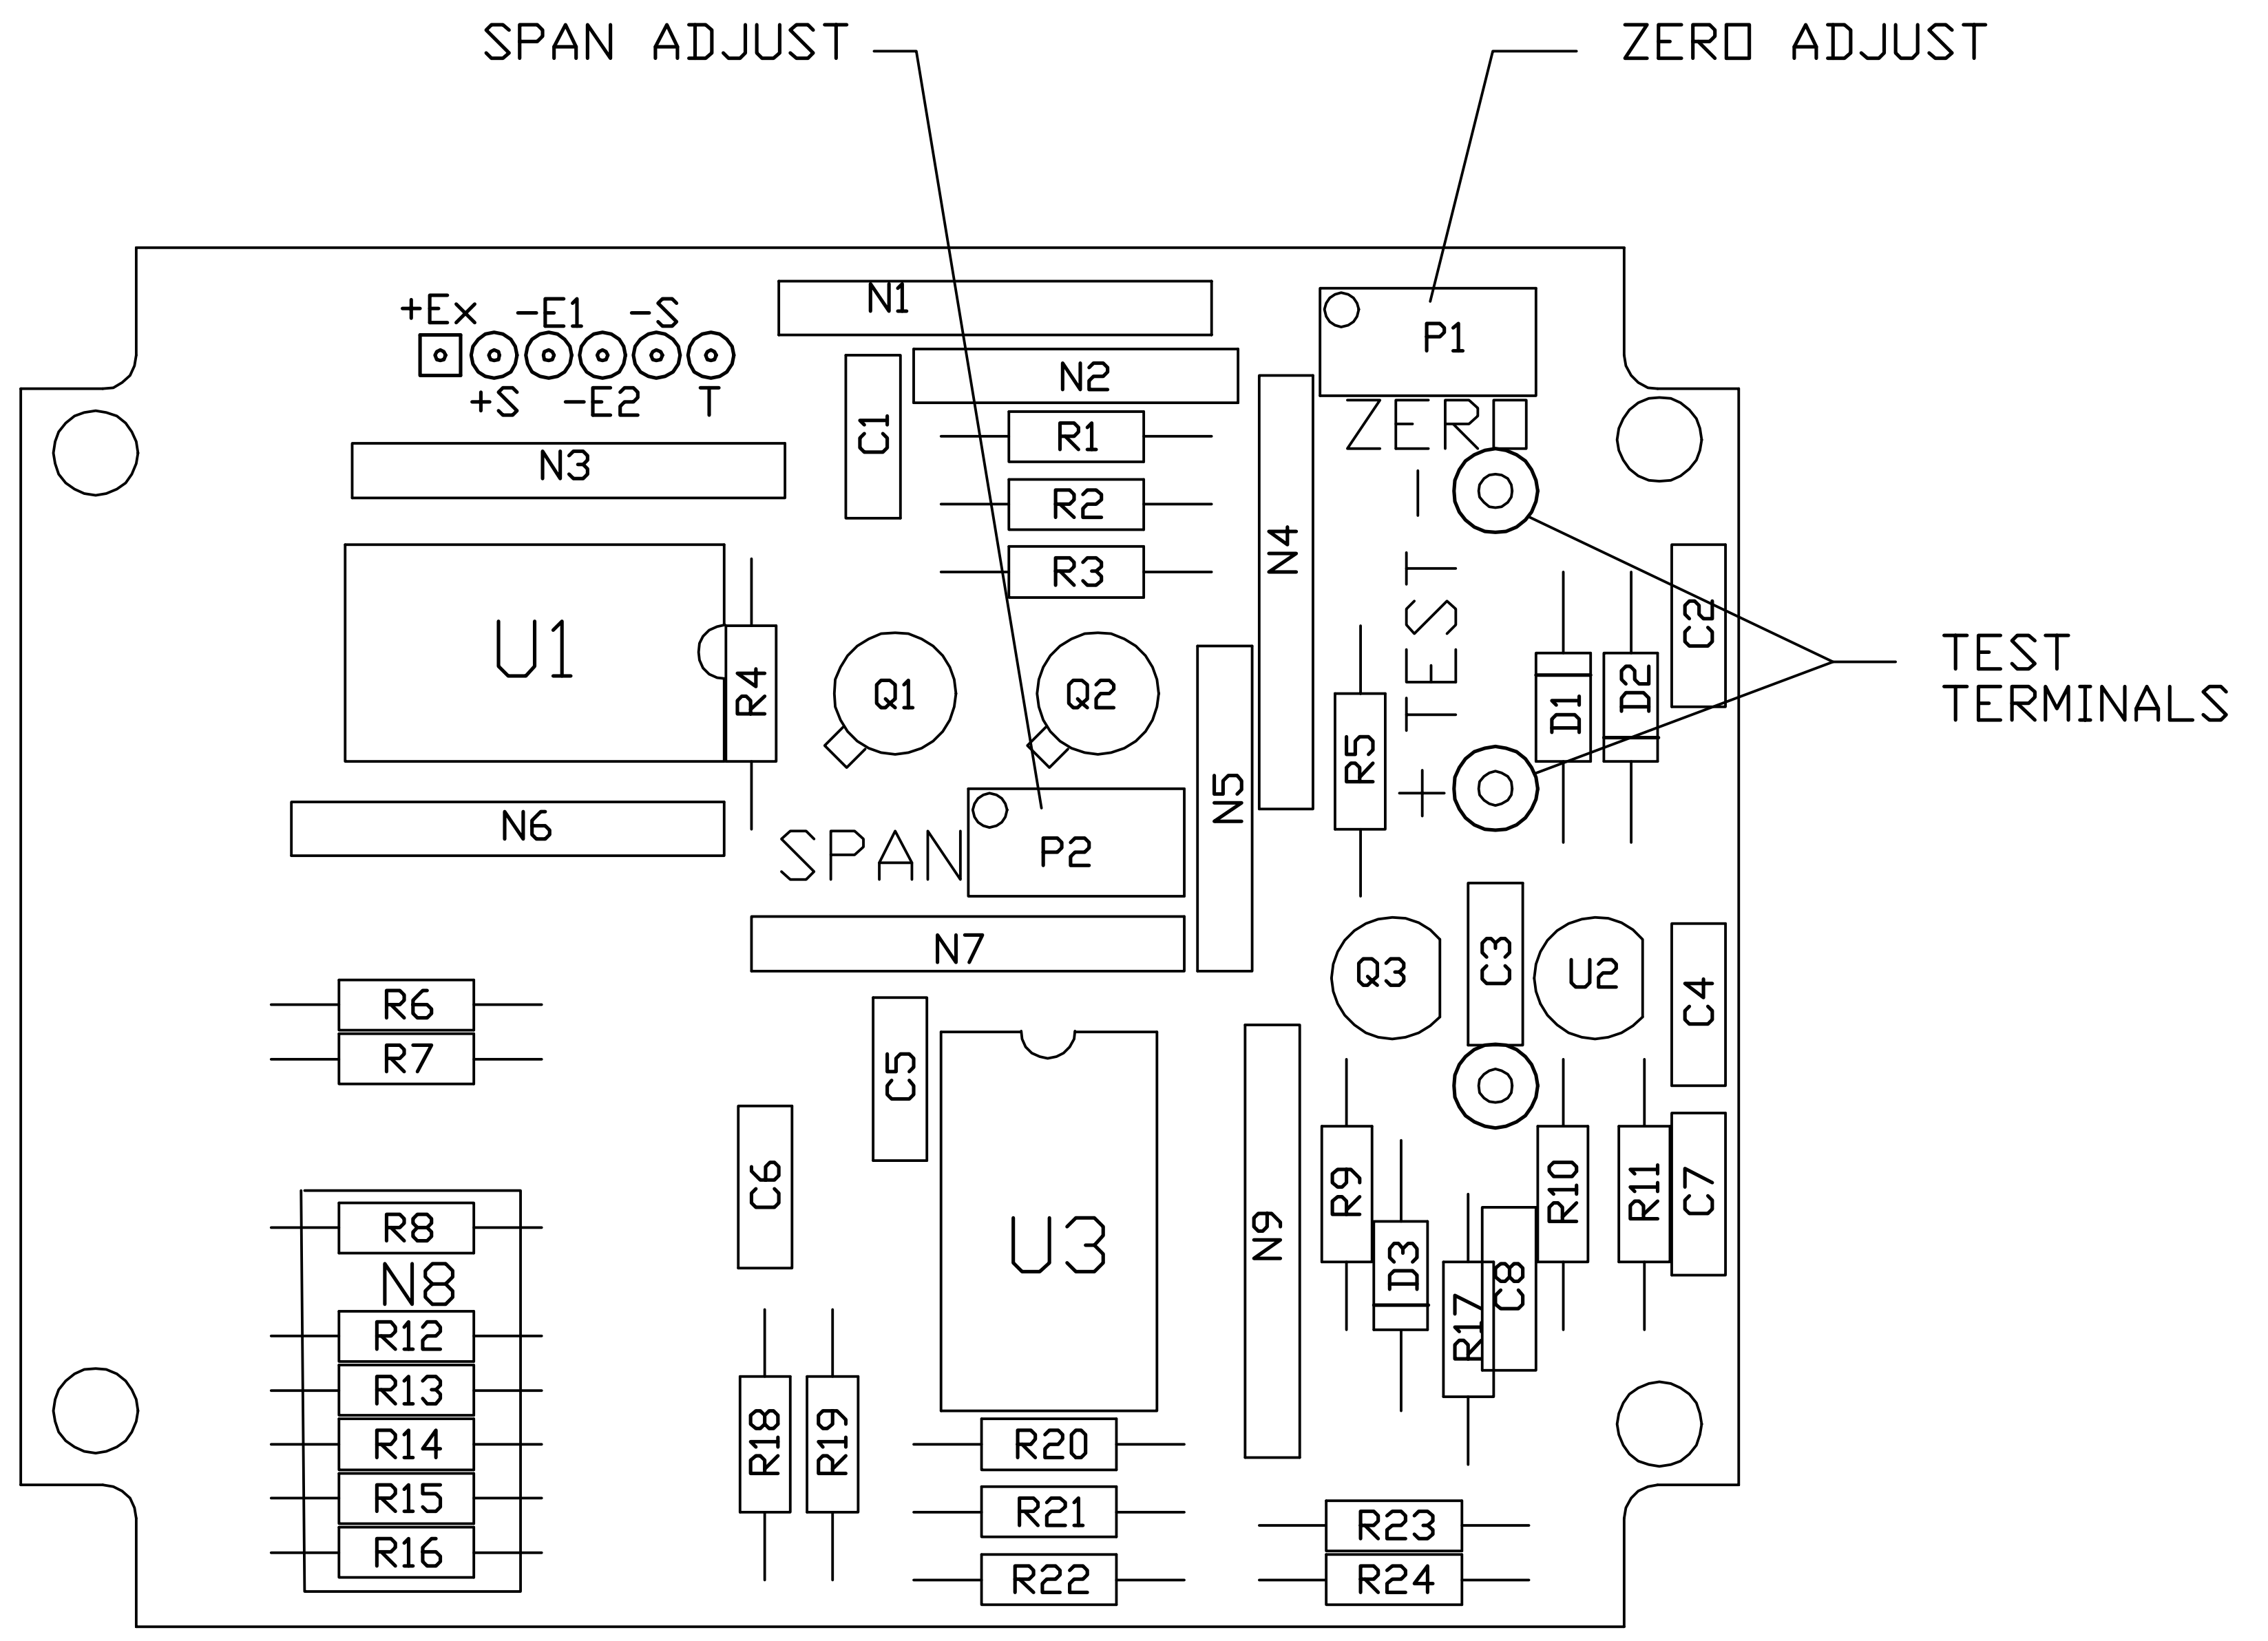

FIGURE 2-1. CONTROLS AND INDICATORS
1-3 Equipment Description. The Model 89D \_\_\_\_\_ 2 differential pressure transducer (hereafter referred to as differential pressure transducer) is a piezoresistive strain gage transducer which accepts a differential fluid pressure input and produces an electrical DC current output that is proportional to the applied differential pressure. Input differential pressure ranges vary depending on the model of the transducer. Each differential pressure transducer consists of a piezoresistive strain gage sensor assembly, a main board assembly, a RFI board assembly and a housing assembly (Figure 6-3). Internal service points permit the adjustment of the ZERO and SPAN limits of the differential pressure transducer output. Two polarized TEST points on the main board assembly allow the differential pressure transducer output to be monitored during testing and calibration (Figure 2-1). Connection of the input pressure sources are in accordance with MS16142 utilizing 1/4 inch O.D. tubing. Connection to the differential pressure transducer's output is a MS3102R14S-5P and MS3106R14S-5S connector pair supplied with the differential pressure transducer in accordance with MIL-D-24304B(SH) located on one side of the differential pressure transducer housing assembly. A breather plug is located on the bottom side of the differential pressure transducer housing assembly.
2-2 CONTROLS AND INDICATORS. Operating control and indicators are shown in Figure 2-1.